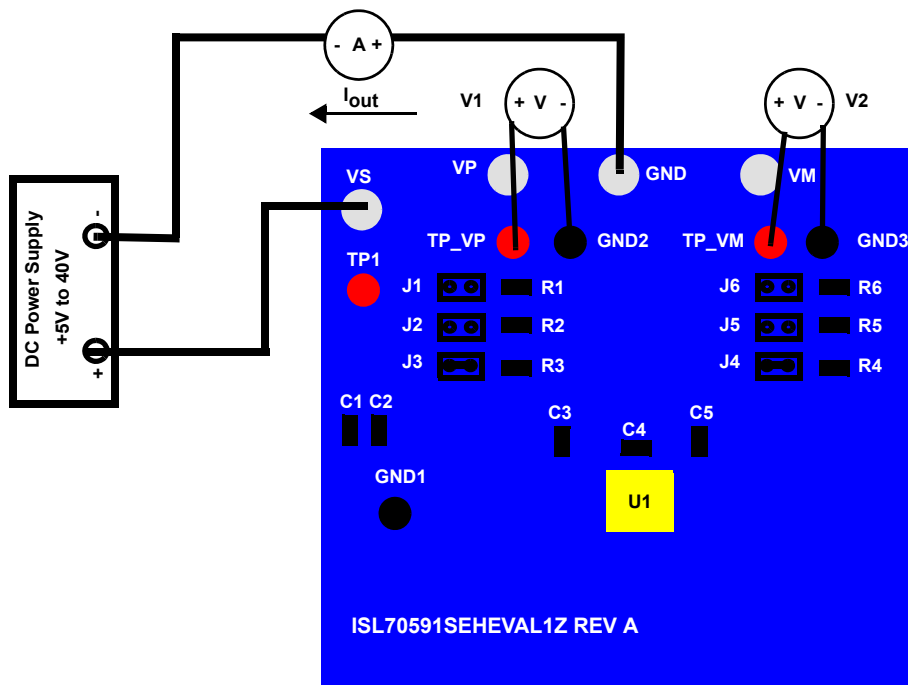

Figure 2. Basic Evaluation Test Setup Block Diagram
- (1) Configure the board as shown in Figure 2 on page 5.
- (2) Set the DC supply to 10V. Turn the DC power supply ON. The current in the ammeter should read approximately 100.3 $\mu$ A. The current in the ammeter should read in the range of 99.7 $\mu$ A to 100.4 $\mu$ A with a typical value of approximately 100.3 $\mu$ A.
- (3) Adjust the DC supply voltage to 5V. The current in the ammeter should read in the range of 99.7 $\mu$ A to 100.4 $\mu$ A with a typical value of approximately 100.3 $\mu$ A.
- (4) Adjust the DC supply voltage to 15V. The current in the ammeter should read in the range of 99.7 $\mu$ A to 100.4 $\mu$ A with a typical value of approximately 100.3 $\mu$ A.
- (5) Turn the DC supply OFF. Remove the jumpers from J3 and J4. Put jumpers on J1 and J6. Set the DC supply to 5V. The current in the ammeter should read in the range of 99.7 $\mu$ A to 100.4 $\mu$ A with a typical value of approximately 100.3 $\mu$ A. The V1 voltage should read approximately 4.9V and the V2 voltage should in the range of 98.7mV to 102.4mV with a typical value of approximately 101.7mV.
- (6) Set the DC supply to 10V. The current in the ammeter should read in the range of 99.7 $\mu$ A to 100.4 $\mu$ A with a typical value of approximately 100.3 $\mu$ A. The V1 voltage should read approximately 9.9V and the V2 voltage should read in the range of 98.7mV to 102.4mV with a typical value of approximately 101.7mV.
- (7) Turn the DC supply OFF. Remove the jumpers from J1 and J6. Place jumpers on J2 and J5. Set the DC supply to 10V. The current in the ammeter should read in the range of 99.7 $\mu$ A to 100.4 $\mu$ A with a typical value of approximately 100.3 $\mu$ A. The V1 voltage should read approximately 9.99V and the V2 voltage should read in the range of 9.87mV to 11.2mV with a typical value of approximately 11.06mV.
- (8) Set the DC supply to 15V. The current in the ammeter should read in the range of 99.7 $\mu$ A to 100.4 $\mu$ A with a typical value of approximately 100.3 $\mu$ A. The V1 voltage should read approximately 14.99V and the V2 voltage should read in the range of 9.87mV to 11.2mV with a typical value of approximately 11.06mV.